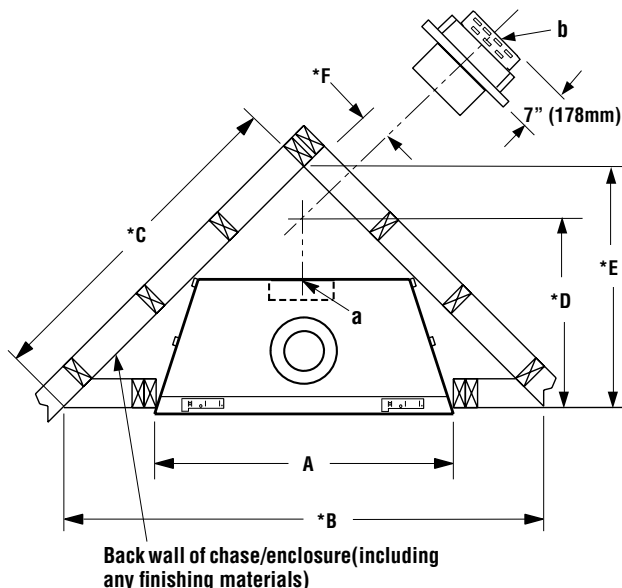
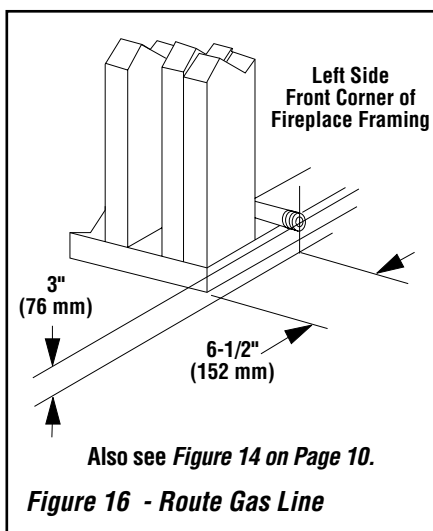

Figure 15 - Corner Framing with Horizontal Termination
Figure 16 - Route Gas Line
Frame these appliances as illustrated in Figures 13 and 14 on Pages 12 and 13 (Figure 15 applies to corner framing installations only). All framing details must allow for a minimum clearance to combustible framing members as shown in Table 5 on Page 10.
Route a 1/2" (13 mm) gas line to the left side of the appliance as shown in **Figure 16**. Gas lines must be routed, constructed and made of materials that are in strict accordance with local codes and regulations. All appliances are factory-equipped with a flexible gas line connector and 1/2" shutoff valve. (See **Figure 50 on Page 28**).
- (1) **rear solid cover plate** (ships installed over rear vent hole; similar to **top solid cover plate** shown in *Figure 16*)
- (1) **top solid cover plate** (ships installed over top vent hole; refer to *Figure 16*)
Install the **rear vent restrictor plate** as shipped (see *Figure 15*) over the rear vent hole using the 4 previously removed screws, as shown in *Figure 16*.